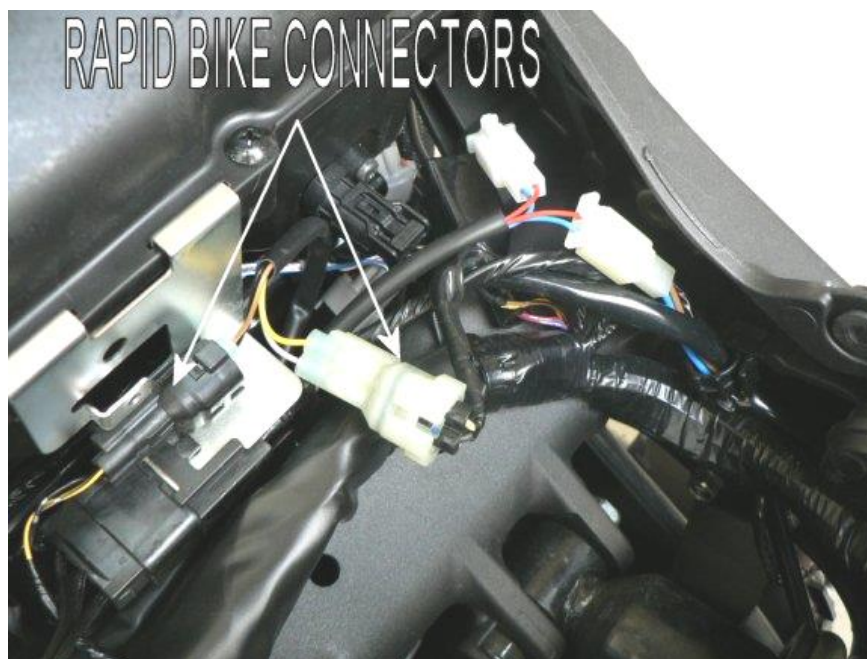

Fig.4
6. Connect the connectors of the Rapid Bike wiring in line with the stock connectors (Fig.4).